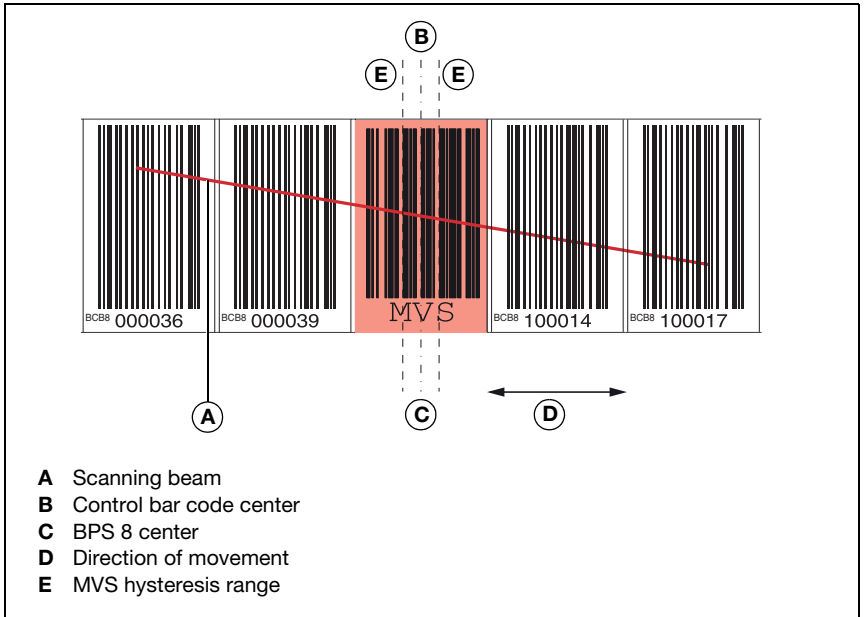

Figure 5.4: Measurement range changeover via MVS control bar code
- If the center of BPS 8 reaches the center of the MVS control bar code at the transition position, the value range of the subsequent BCB is switched to – provided the BPS 8 has the next position bar code in the scanning beam(see figure 5.4).
The measurement range changeover from the preceding to the subsequent BCB occurs when the center of the BPS 8 (C in Figure 5.4) is opposite the center of the control bar code (B in Figure 5.4).
If a measurement range changeover occurs in the center of the MVS control bar code to the subsequent BCB, a hysteresis range of $\pm 2\text{mm}$ (E in Figure 5.4) is activated.